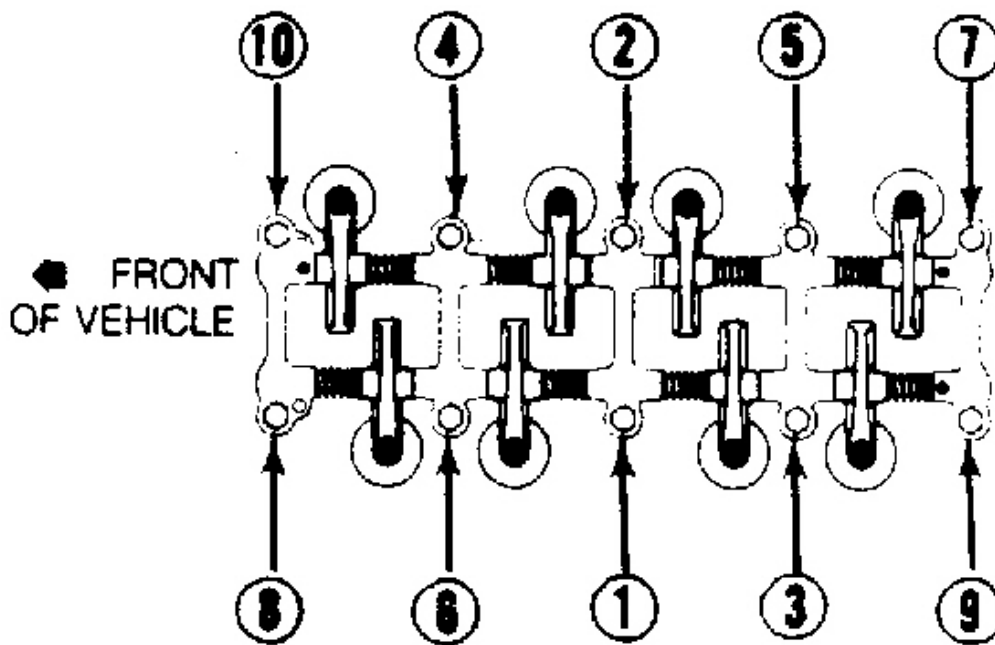

Fig. 1: Cylinder Head/Rocker Arm Bolt Tightening Sequence
6. Loosen cylinder head bolts, in 3 steps, in reverse order of tightening sequence. See **Fig. 1** . Remove rocker arm assembly. If necessary, pry equally at front and rear of rocker arm assembly to remove.
2. Install rocker arm assembly over locating dowels and tighten head bolts in 3 steps. See **Fig. 1** . Continue installation in reverse of removal sequence. Ensure valve and ignition timing is properly set. Adjust valves.